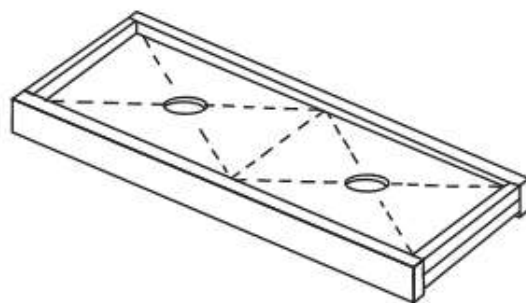

Fig. 1
2. Divide the header in half and draw a line dividing the header into two equal parts. To find the center of each section draw an X diagonally from each corner to the center line as shown. Using a hole saw or a jigsaw cut two  $2\frac{3}{8}$ " dia. holes (For LED version) through the header. This will be the placement holes for the lights. Fig. 1.